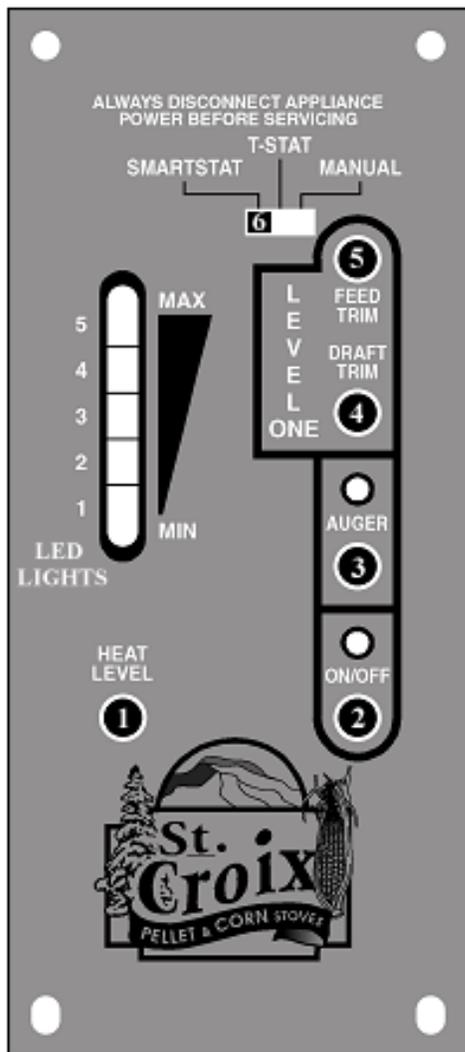

Figure 2
The Prescott Series is approved to burn a mixture of pellets and corn (maximum 50% corn). The Thermostat Switch should be set to the Manual position. (*See Fig. 2 on page 5*) Operation of the stove doesn't change when burning a mixture of pellets and corn. The burn pot will need to be cleaned on a daily basis, using the "Pot Scraper Tool" shown in figure 5 on page 9. Use the Pot Scraper Tool to remove any clinkers that build up because of the corn when needed. For more information, read the Daily, Periodic and Yearly Maintenance section towards the back of this manual.
A closer look at the Control Board on page 5, figure 2 will explain how the board works. There are five buttons labeled 1 through 5, a slide switch labeled 6 and a LED Light bar with 5 Heat Settings. **The LED Light bar is also used during the Diagnostic process, see page 6 and 7 for more details.**
The buttons on the board function as follows: *(Refer to Figure 2. The touch pad buttons and Slide Switch are labeled with the white numbers 1 through 6)*
**Lighting Your Stove.** (Refer to Figure 2)
**Shutting The Stove Off** (*Refer to Figure 2*)
1. Press the On/Off switch (2) once; the lights will go off and the fire will go out in a few minutes. The board essentially goes into "Safety shutdown".
The #2 LED and the #3 LED lights on the LED Light bar as show in Figure 2 will flash to give a diagnostic code to help in diagnosing problems that may occur.
safety shutdown, the #3 LED will start blinking. (See Figure 2 on Page 5 and point 3 on page 15)
1. The **High Limit** switch. This sensor will sense if the unit reaches temperatures that are too high for normal operation. If this happens the Auger will quit feeding and the #2 and #3 LED lights will flash simultaneously. (See Figure 2 on Page 5 and point 4 on page 16)
2. The **Vacuum** Switch - For the stove to operate, the Firebox needs to be sealed. During the first 30 seconds after the stove has been turned on the Control Board will check if the switch senses negative pressure (Vacuum) in the Firebox of the stove. If there is no negative pressure, the stove will shut down and the #2 LED will start blinking. (See Figure 2 on Page 5 and point 2 on page 15).